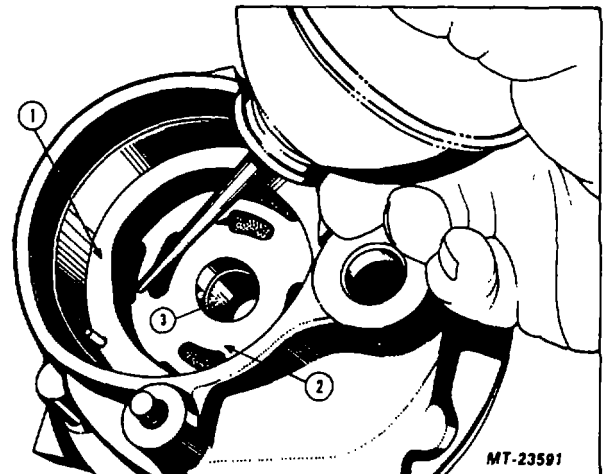

Fig. 32 Lubricate Pump Components
5. Lubricate the face of the front end plate, shaft bushing and I.D. wall of the cam ring with the same type of fluid as used in the pump, Fig. 32.